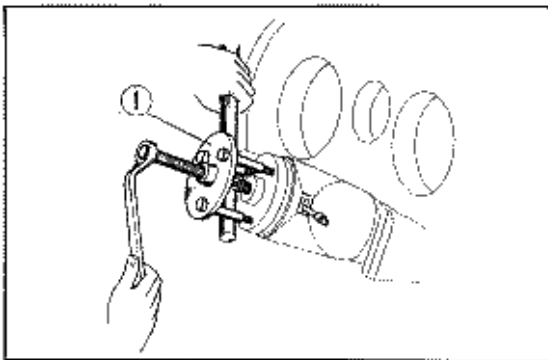

Fig. 10-2 ① Steering Wheel Puller
5. Remove the steering wheel foundation by using the steering wheel puller (special tool). (Fig. 10-2)